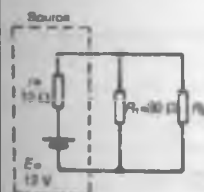

Figure 13.93
- 10 For the circuit shown in Fig. 13.93, maximum power transfer from the source is required. For this to be so, which of the following statements is true?